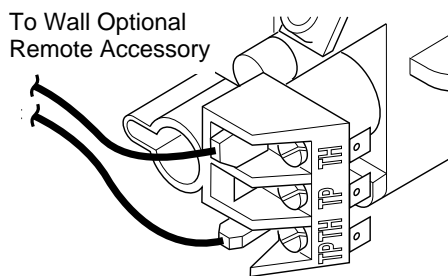

Figure 41 - Control Valve Terminals
3. Connect one terminal of 25 ft. wire for the wall thermostat to the TPTH terminal on the valve. Connect remaining wire terminal to the TH terminal on the valve. Make sure that the wire terminals are in the positions on the unit as pictured in Figure 41. If wires are not connected as shown the thermostat will not work.
1. Connect one terminal of 25 ft. wire for the wall switch to the TPTH terminal on the valve. Connect remaining wire terminal to the TH terminal on the valve. Make sure that the wire terminals are in the positions on the unit as pictured in Figure 41. If wires are not connected as shown the switch will not work.
6. Connect wires from receiver to TH and TPTH on the valve (see Figure 41, page 21).